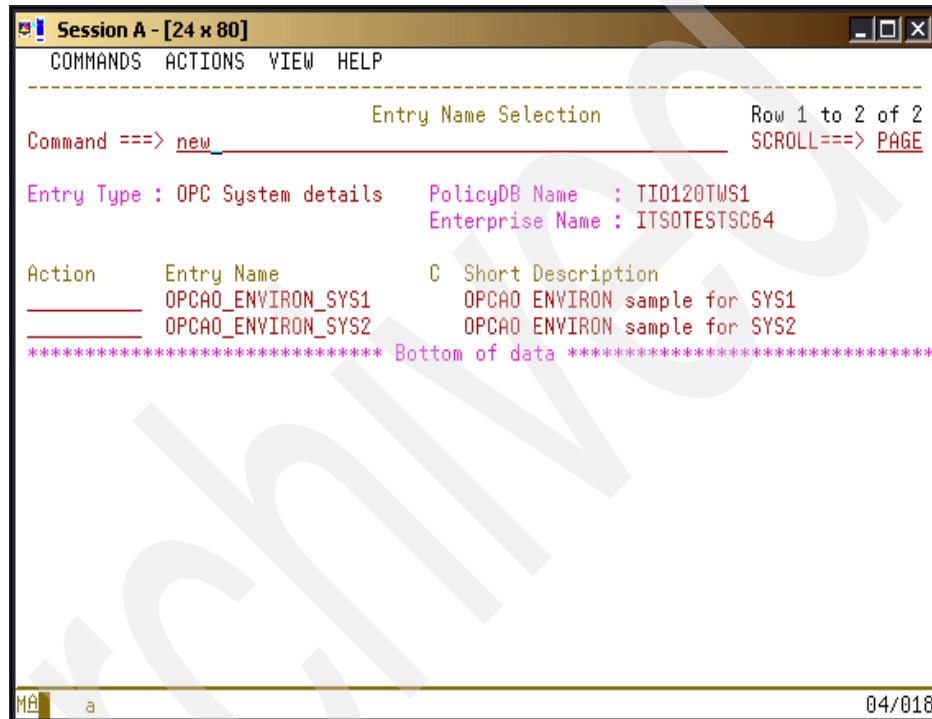

Figure 4-49 OPC System Details Entry Name Selection panel
1. Select **option 30 - OEN** OPC System details from the Entry type selections for Product Automation panel and press Enter. The Entry Name Selection panel that is shown in Figure 4-49 displays.